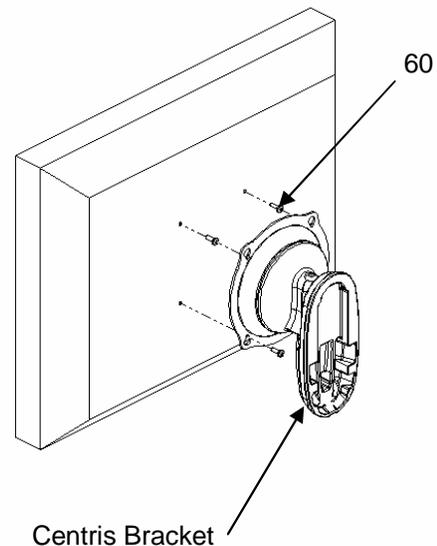

Figure 2. Flush Mount Centris Bracket to Display
1. Start two M4 x 12mm screws (60) into top mounting holes (not shown) on display.
2. Align mounting holes on Centris Bracket with screws installed on display. Hang display on Centris Bracket (see Figure 2).
3. Install two remaining M4 x 12mm screws (60) into bottom mounting holes on display.
4. Tighten four M4 x 12mm screws (60) screws.